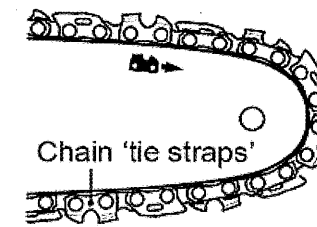

Fig. 11
1. Check the chain tension using one hand to lift the saw chain (7) against the weight of the product. The correct chain tension is achieved when the saw
chain can be lifted by approximately 2 - 4 mm from the guide bar (8) in the centre (Figs. 11, 12).